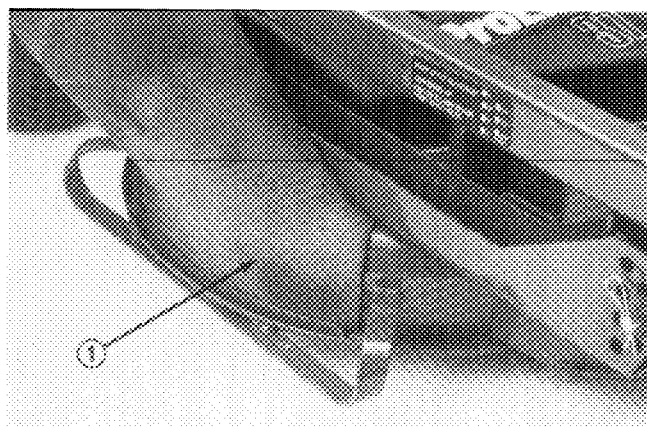

Figure 8
2. Slide chute assembly onto deck lip while aligning mounting holes in deck channel (Fig. 8).
3. Secure chute assembly to deck channel with (2) capscrews, lockwashers and wing nuts previously securing discharge cover to deck channel.